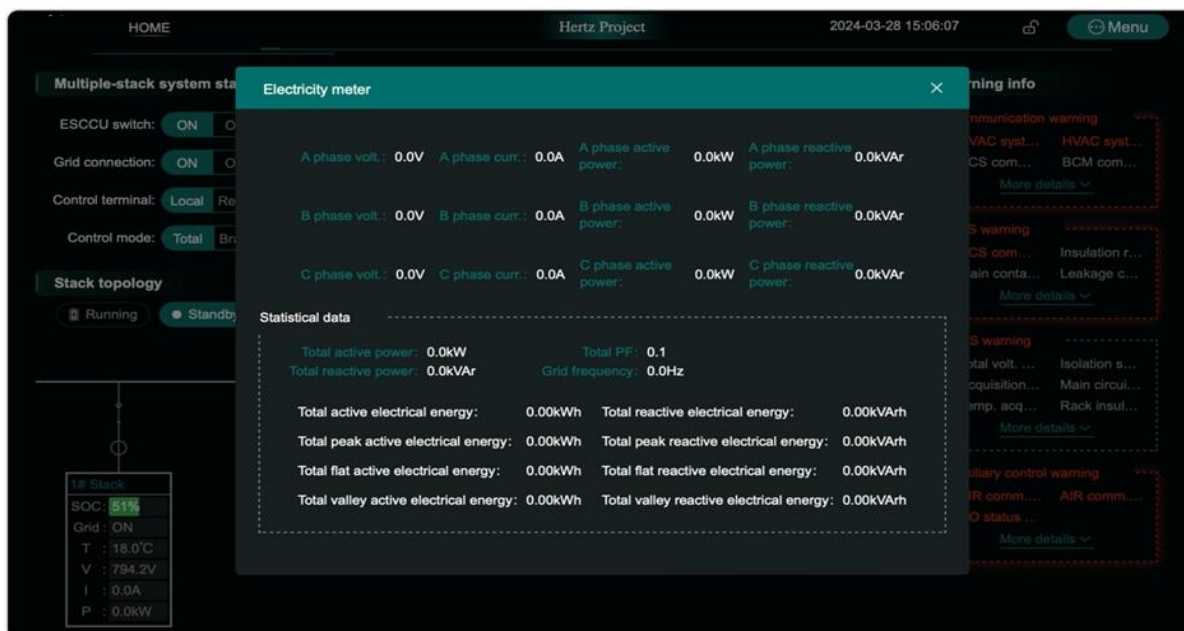

Figure 5-6 Metering Meter Data Interface
- 2) Metering data: click on "Metering" in the EMS management system's main page to view voltage, current, active and reactive power metering data, as well as statistical power consumption data for the system (refer to Figure 5-6).